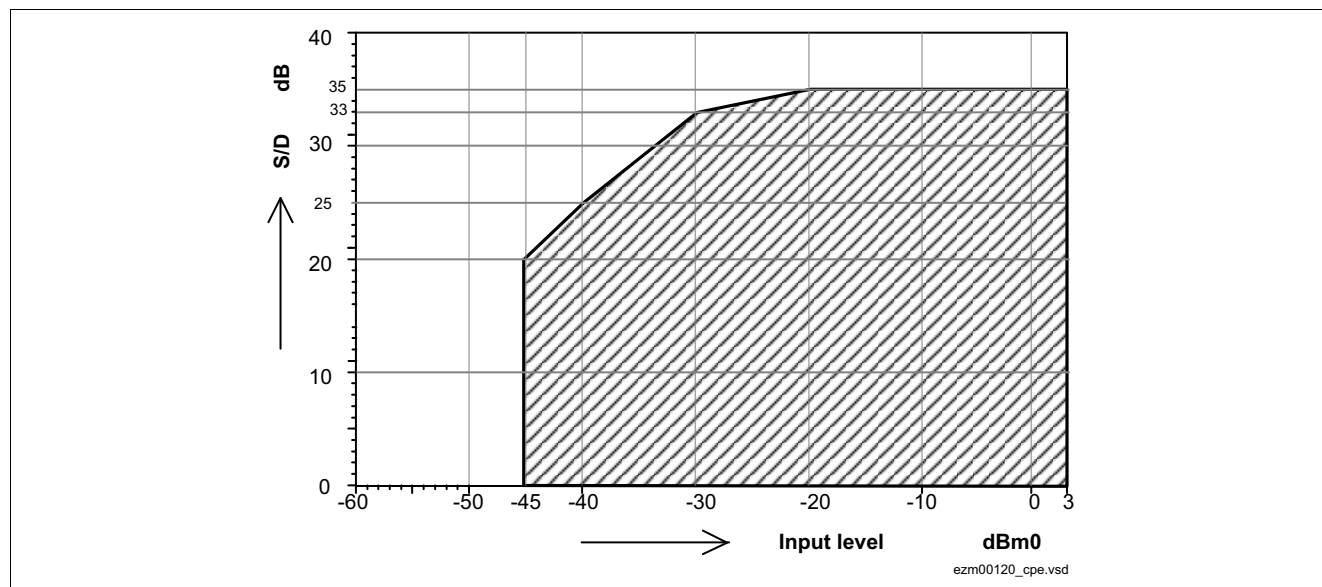
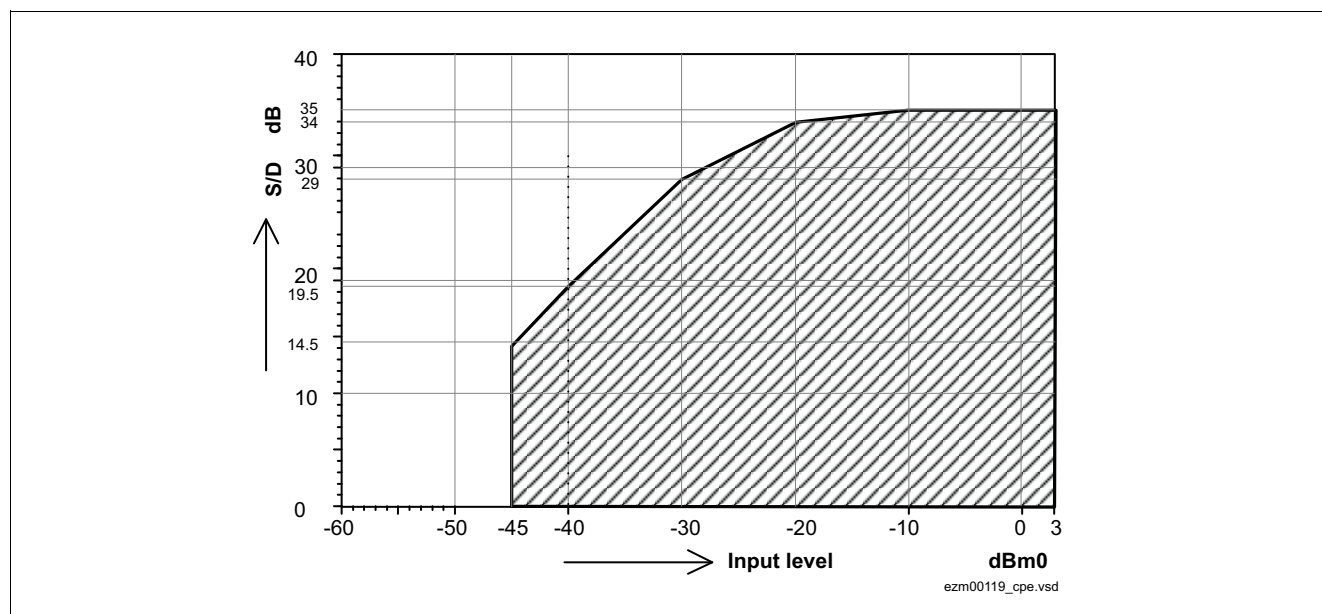
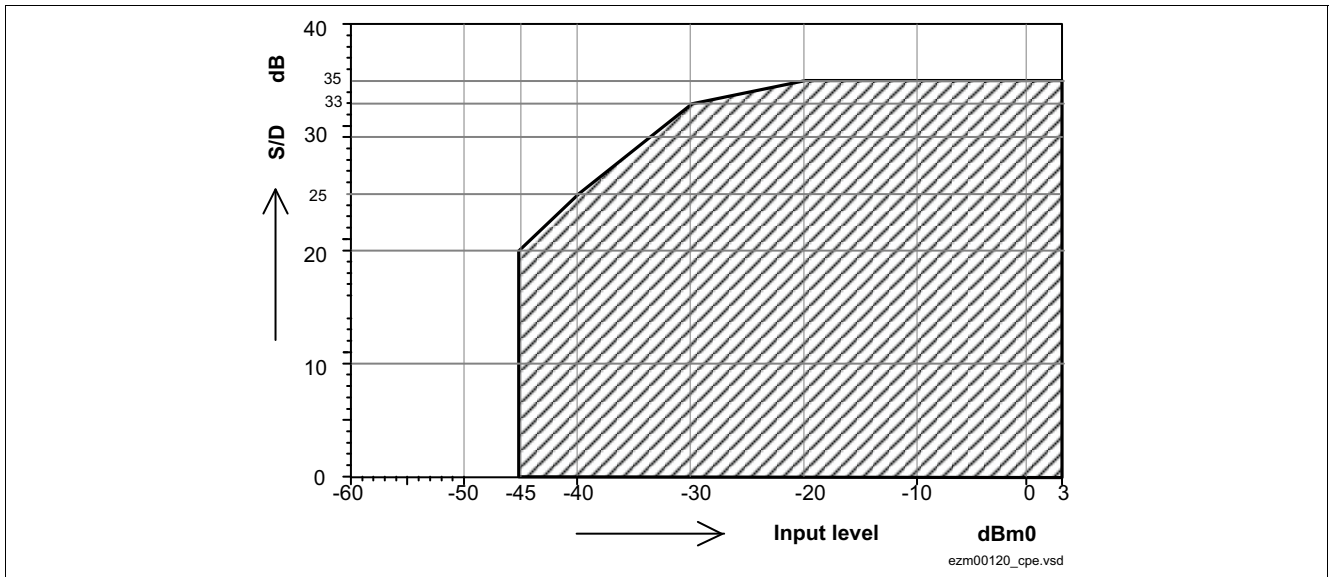

Figure 23 Total Distortion - Transmit ($L_x = 0$ dBr)
Figure 24 Total Distortion - Receive ($L_R = -7$ dBr)
Figure 25 Total Distortion - Receive ($L_R = 0$ dBr)
- 2) For the min. values see also Figure 23, Figure 24 and Figure 25
In Figure 23 the signal to total distortion ratio exceeds the limits.